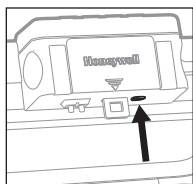
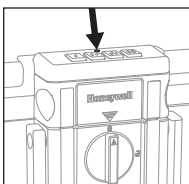

Figure 2.4
Figure 2.5
1. Open the lid, remove reset button cover (Figure 2.4) and press the reset button on the underside of the lock, LED will flash Red to indicate passcode setting (Figure 2.5).